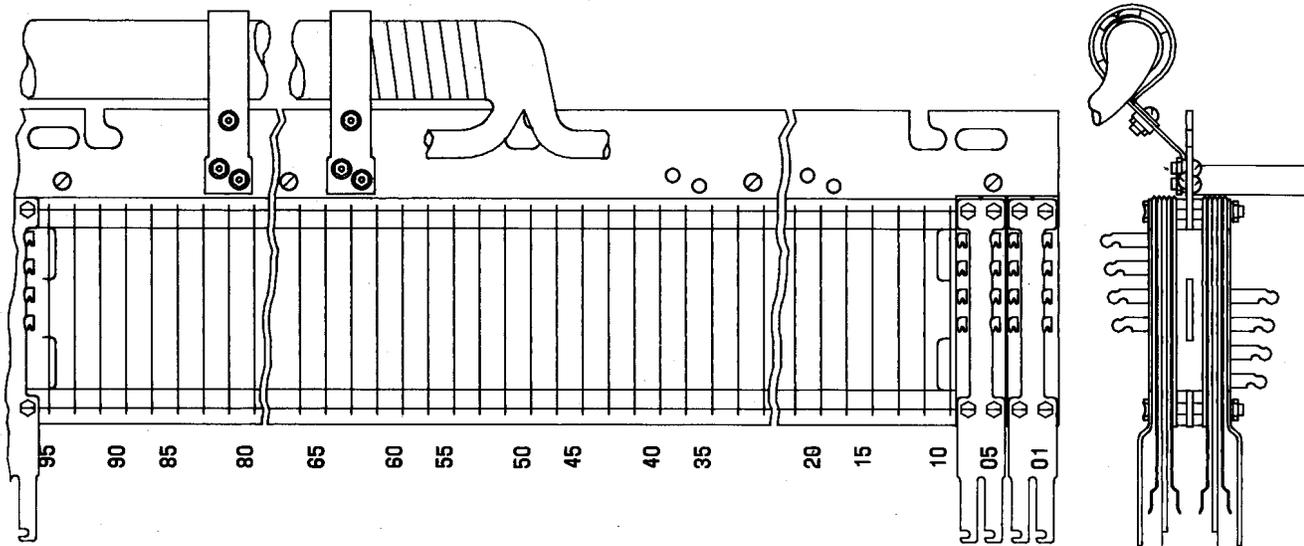

Fig. 19—301A-100 or A2-100 Connector.
2.12 **301A-100 and A2-100:** The 301A-100 and A2-100 connectors (Fig. 19) consist of a 444C jack equipped with a universally mounted 24-gauge, color coded, plastic insulated stub cable with an aluminum shield and a polyvinyl chloride (PVC) sheath; and a fanning strip. The stub cable is equipped with a gas plug. These connectors provide ready means of opening lines and trunks for testing and other purposes. These connectors are used in central offices located in areas where incoming circuits are in underground cables and do not require heat coil or carbon block protection. The 301A2-100 has the stub cable and clamps reversed for top mounting.